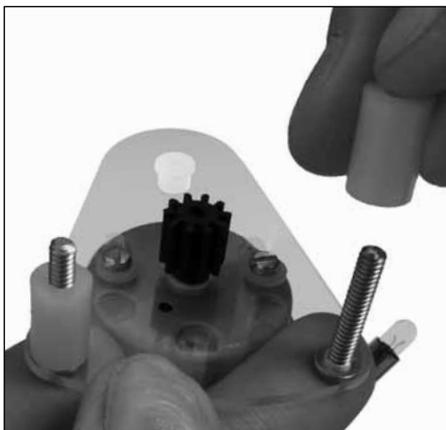

Figure 10
13. Take the motor assembly (from Steps 2-4) and drop the two 7/8" screws into the holes at the bottom of the assembly on the same side as the motor. Turn over the assembly and place a 1/2" nylon spacer over each screw end (Figure 10).